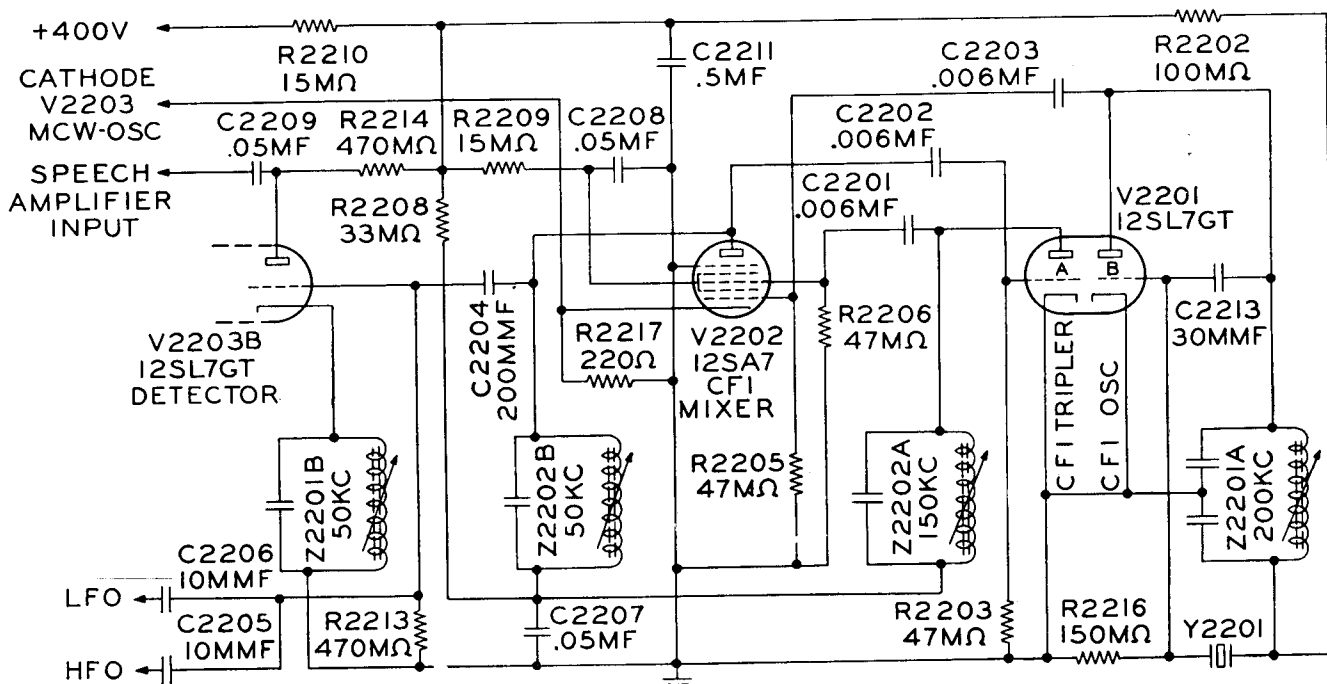

Figure 4-9. CFI Circuit
(1) GENERAL.—The calibration oscillator employs a circuit known as a regenerative frequency divider. Refer to figure 4-9. The circuit produces a 50 kc fundamental frequency and harmonic output voltages while using a 200 kc crystal as a controlling standard. The 200 kc quartz crystal unit is mounted in a sealed holder which plugs into a two terminal socket on the top of the chassis. Both triode sections of a 12SL7GT tube, V2201, a 12SA7 pentagrid converter tube, V2202, and one section of an additional 12SL7GT tube, V2203, are used in the calibration oscillator circuit. The vacuum tubes plug into octal sockets on top of the chassis in the order mentioned. The chassis is stamped with the crystal and vacuum tube type designations. The inductor tuning screws that protrude through the sides of the shield cans containing tank circuits Z2201A, Z2201B, Z2202A, and Z2202B should not be adjusted for any reason unless the alignment procedure is thoroughly understood. The CFI Unit is placed in operation by applying plate voltage to the CFI tubes. The voltage is obtained from the low voltage section of the dynamotor and is applied when power level switch S106 is operated to the CALIBRATE position. Operating power level switch S106 to either TUNE or OPERATE position removes high voltage from the CFI tubes thus disabling the oscillator circuit.
(2) CIRCUIT FUNCTION.